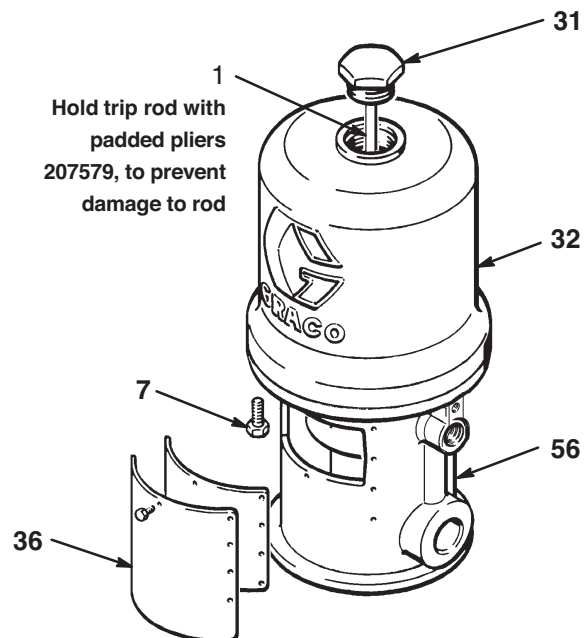

FIG. 4
4. Manually push up on the piston rod to move the piston assembly to the top of its stroke. Unscrew the cylinder cap nut (31) from the cylinder (32). Pull up on the cap nut. Grip the trip rod (1) with padded pliers, 207579, and screw the cap nut off the trip rod. (FIG. 4)
5. Remove the eight screws (7) holding the cylinder (32) to the base (56). Carefully pull the cylinder *straight up* off the piston. (FIG. 4)